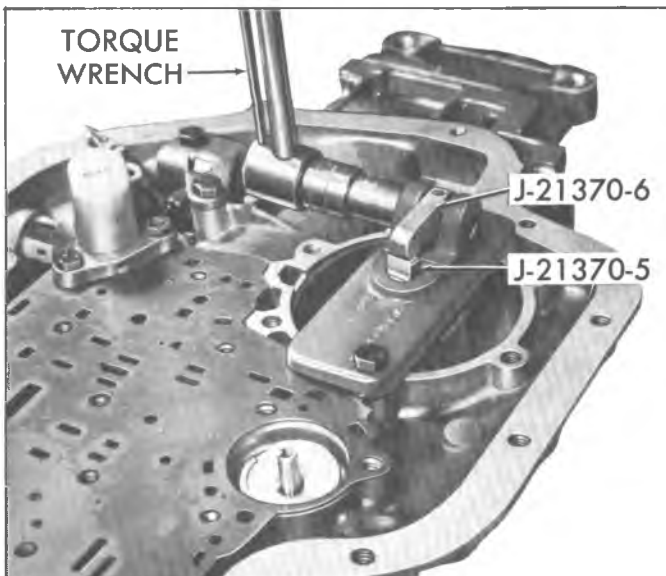

Fig. 146T-Checking Rear Band Pin
1. Check rear servo band apply pin. (Fig. 146T).